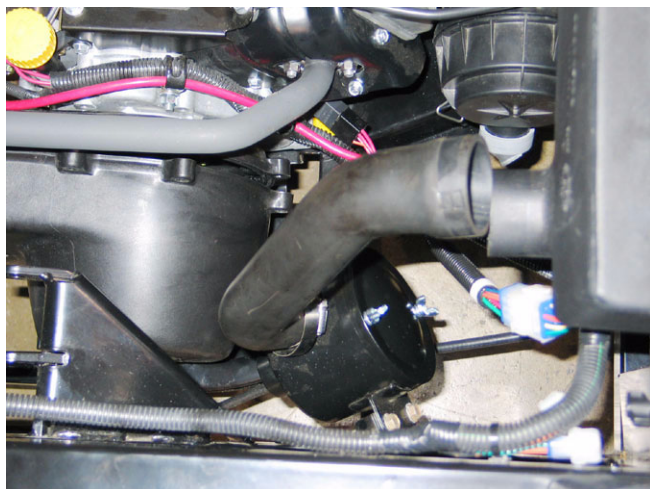

Figure 5.12
- 5.12. Loosen the hose clamp that secures the molded hose from the air filter to the plenum. See Figure 5.12.